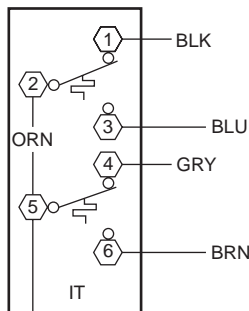

FIGURE 54 — INDOOR THERMOSTAT (IT) CONTACTS, ALL 52SQ AA AND CP MODELS
■ **INDOOR THERMOSTAT (Heat Pump Units) (Figure 54)** — The heat pump indoor thermostat uses a two-stage switch for the heating mode. The first stage engages the compressor and reversing valve, and the unit operates in normal heat pump mode. The indoor thermostat maintains the selected temperature by cycling the compressor on and off in cooling mode. In the heating mode, the indoor thermostat will cycle the compressor or the heater, depending on the difference between the actual room temperature and the thermostat temperature setting.
■ **INDOOR THERMOSTAT (Heat Pump Units) (cont)** (Figure 54) — To verify operation of the heat pump indoor thermostat switch, a continuity test may be performed as follows: